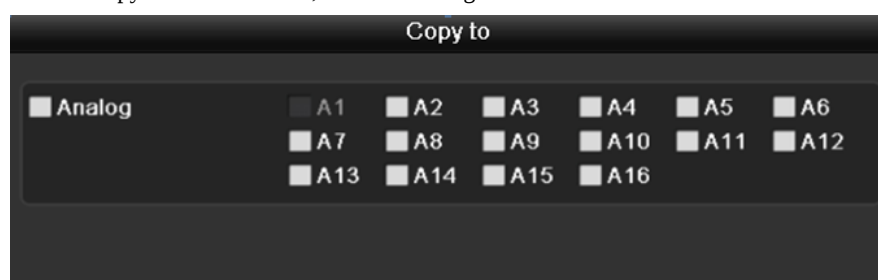

Figure 11.2 Copy Settings to Other Cameras
- 1) If you want to copy the OSD settings of the current camera to other cameras, click the **Copy** button to enter the Copy Camera interface, as shown in Figure 11.2.